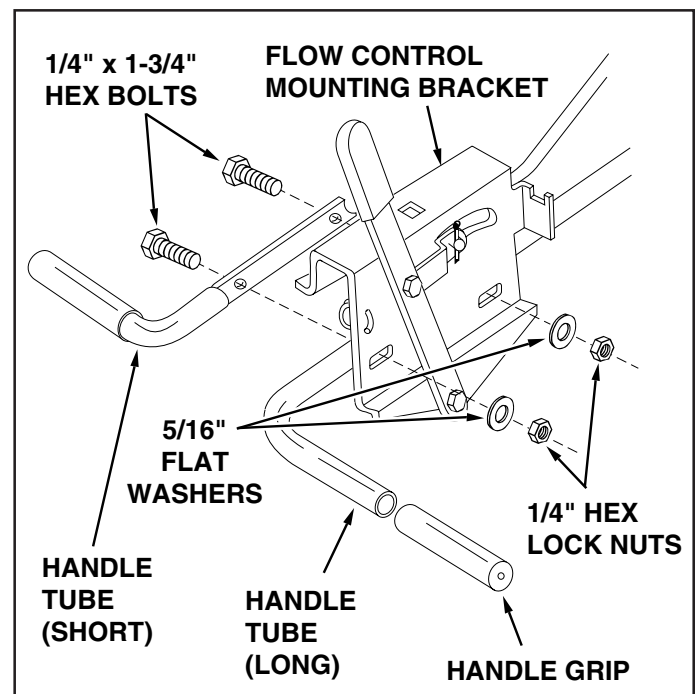

FIGURE 10
22. Assemble the flow control mounting bracket and the short handle tube to the long handle tube using two 1/4" x 1-3/4" hex bolts, two 5/16" flat washers and two 1/4" hex lock nuts. See figure 10. **Do not tighten yet.**
23. Place a handle grip on each handle tube. See figure 10.